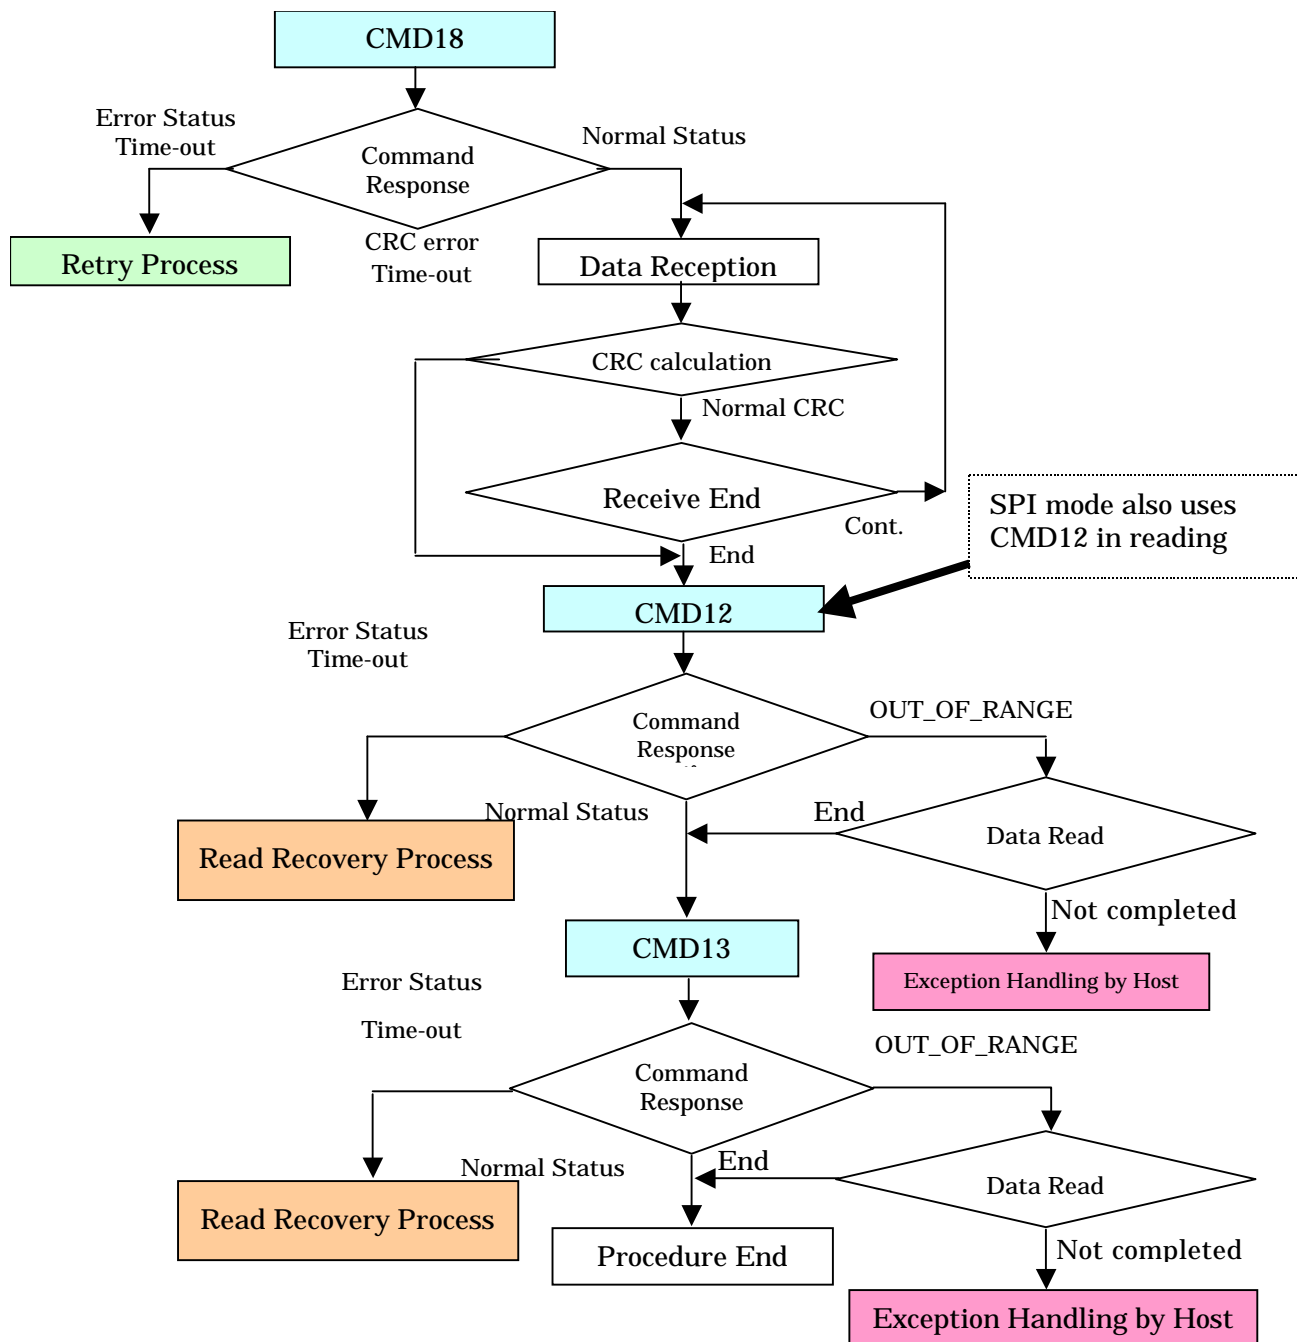

Figure 13 Standard flow including CMD18 error recovery process
- (1) Attempting to read the final block may cause OUT\_OF\_RANGE. In such case, ignore the OUT\_OF\_RANGE.
- (2) If CARD\_ECC\_FAILED occurs, retry reading.
- (3) Retry process shall follow Figure 13.